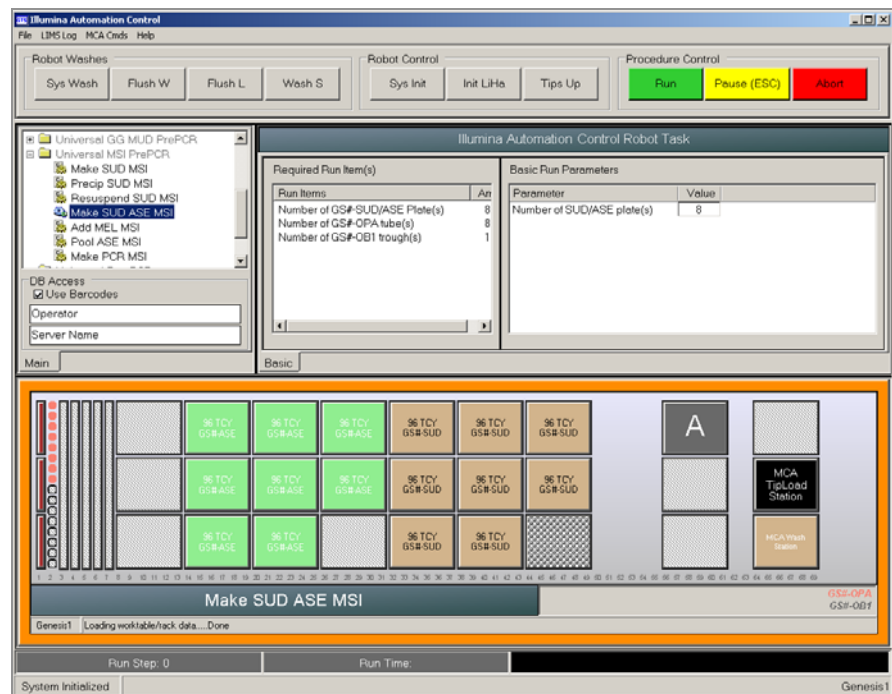

Figure 21 Universal MSI PrePCR | Make SUD ASE MSI
1. From the robot PC, select **Universal MSI PrePCR | Make SUD ASE MSI** (Figure 21).